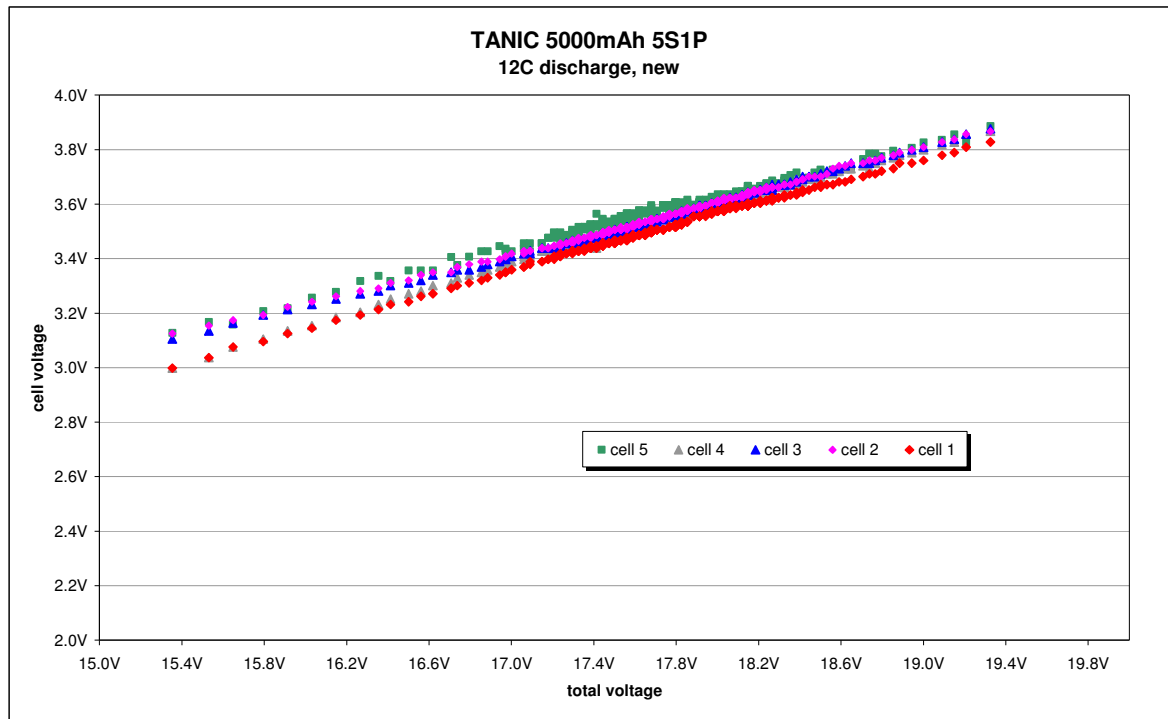

Fig. 3 Individual cell voltages during 12C discharge, initial state
3) Cell matching (Fig.3, 4, 5)